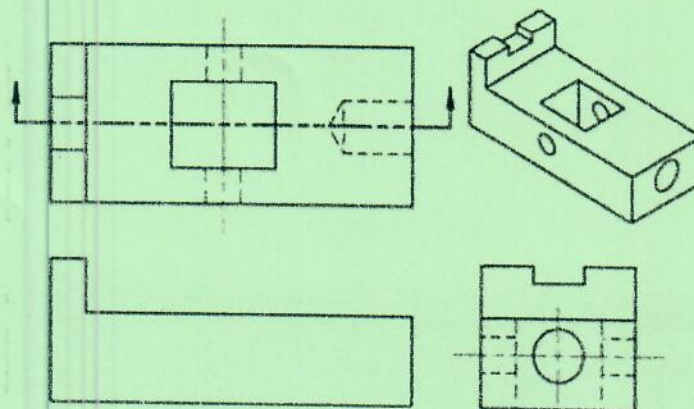

Figure 3 A key for coupling the hub to the rim.
- Figure 3 shows a key used to join a tractor final drive hub to the wheel rim. A cutting plane is shown in the top view of the orthographic projection. Sketch the sectioned front view in figure 3a on page 12. [10 marks]